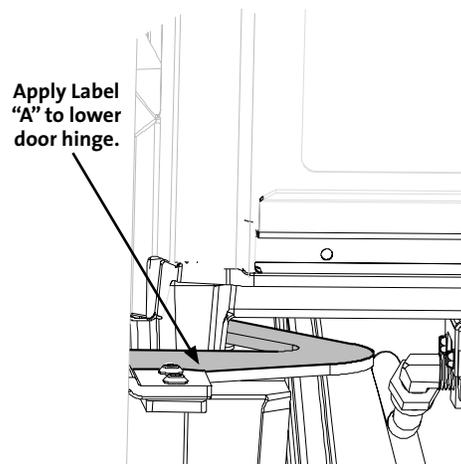

Figure 7.6. Conversion label "A" location.
- **Label A:** apply to the **Lower Door Hinge**. Fig. 7.6.